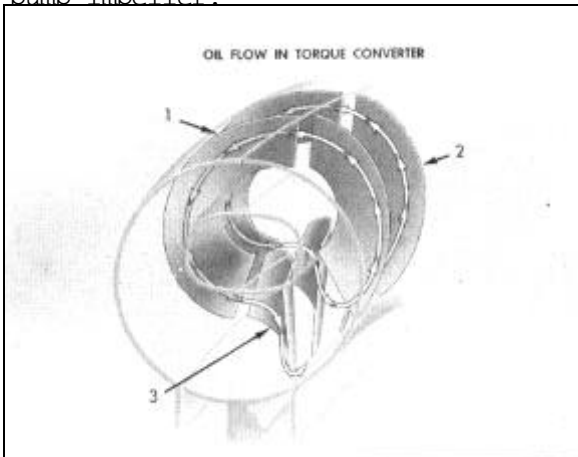

FIGURE 4
multiplication. This is accomplished by use of the stator (3), Figure 4, which changes the direction of the oil flow as it leaves the turbine so that it enters the pump impeller (driving member) at the most efficient angle to assist the engine in driving the pump impeller.